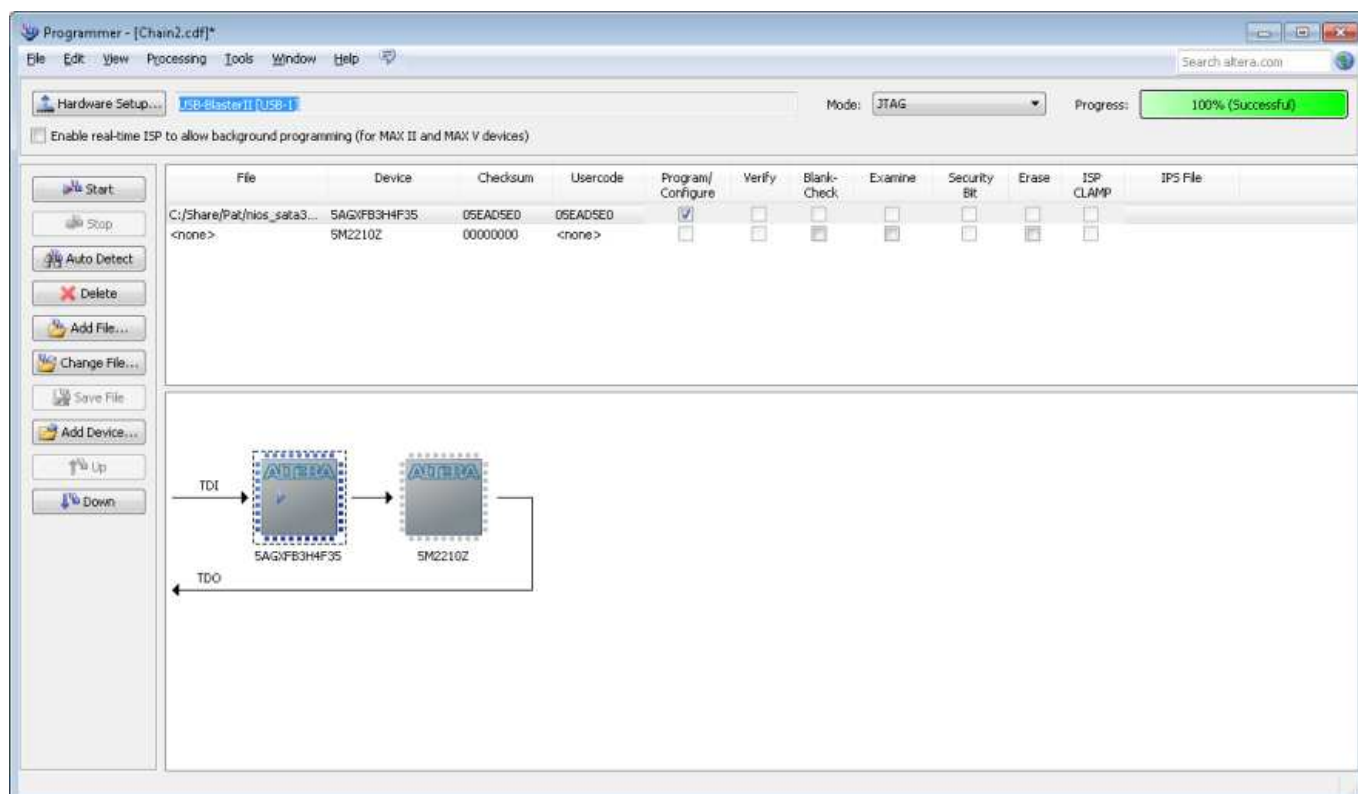

Figure 1-5 Programmer Environment
- Open Quartus Programmer and download “nios_sata3_timeout_exfat.sof” to ArriaV GX board, as shown in Figure 1-5.